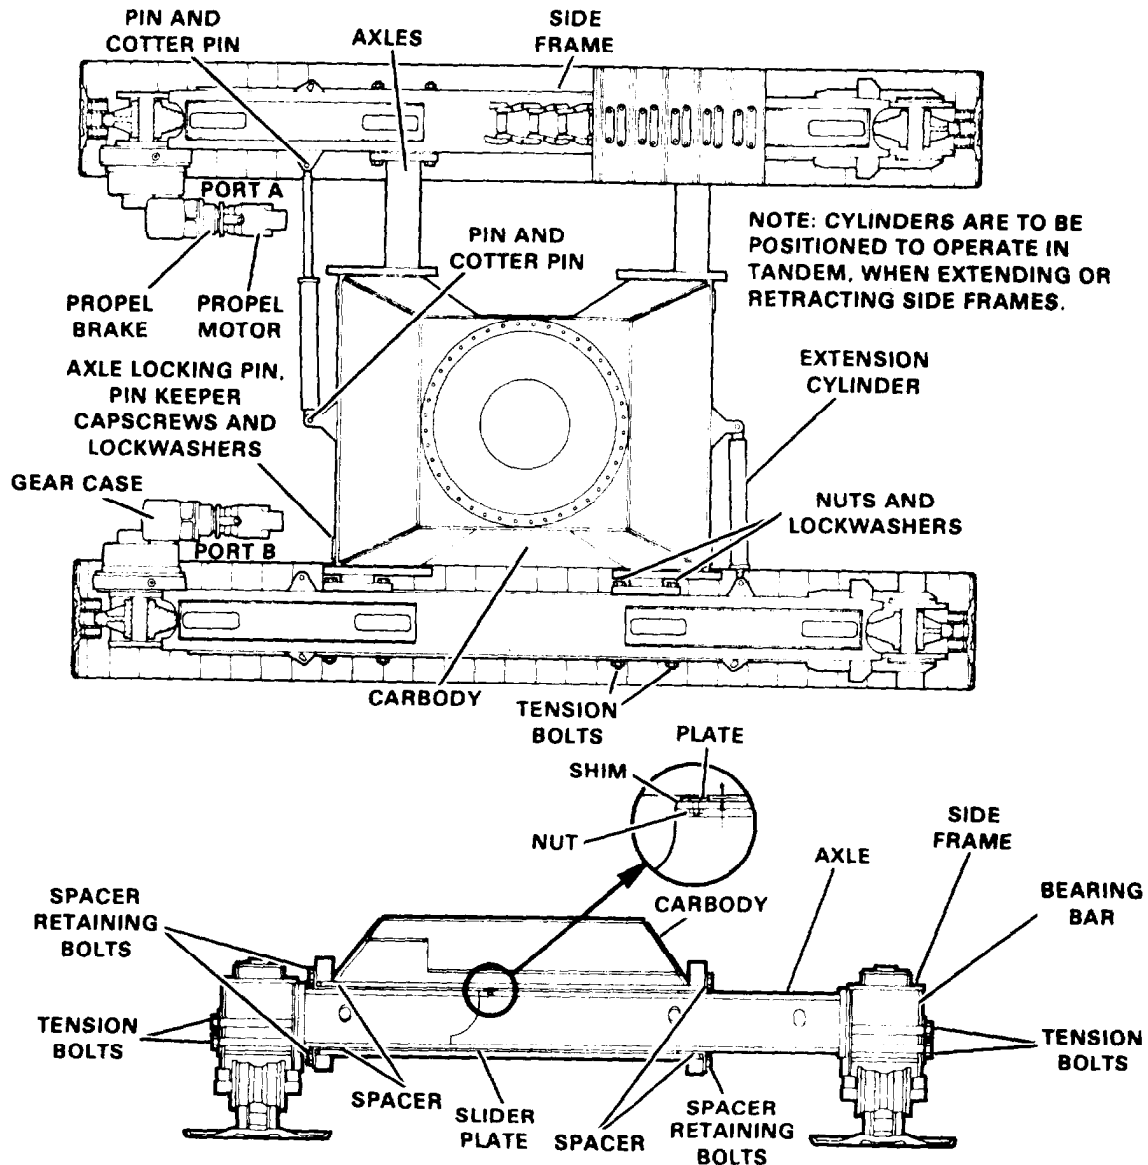

Figure 9E-7. Crawler and Axle Assembly (2100J949)
5. Position a sling onto the crawler shoes so that the entire side frame assembly will balance. Hook a tagline from the left hoist drum and the side frame removal sling into the bottom block as shown in Figure 9E-6.